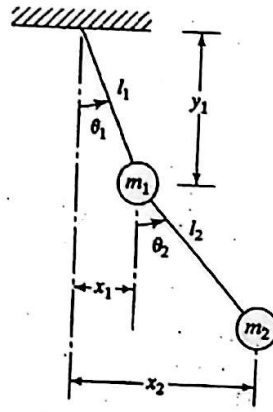

FIGURE 5.17
- 5.2 Set up the differential equations of motion for the double pendulum shown in Fig. 5.17, using the coordinates  $x_1$  and  $x_2$  and assuming small amplitudes. Find the natural frequencies, the ratios of amplitudes, and the locations of nodes for the two modes of vibration when  $m_1 = m_2 = m$  and  $l_1 = l_2 = l$ .